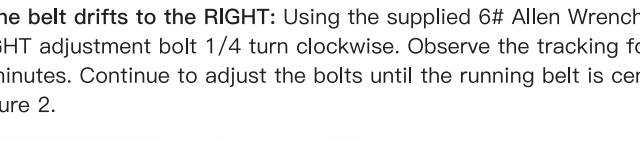

Figure 1 **Figure 2**
4. Turn the adjusters to the RIGHT to adjust the right side the running belt is centered. Refer to Figure 1.